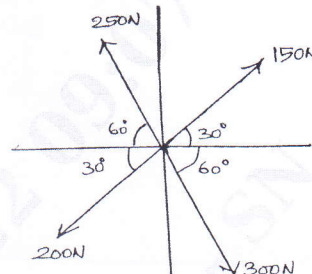

Fig Q4(b)
- Determine the magnitude and direction of resultant force from Fig Q4(b). (10 Marks)